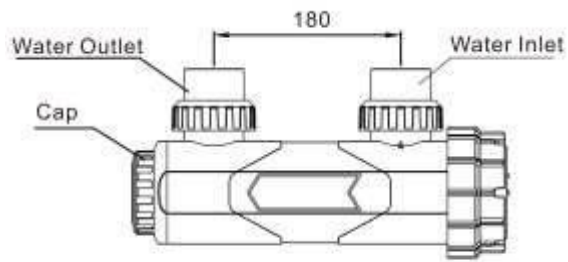

Figure1-2
- Two optional outlets make installation more convenient. (see figure 1-2, 1-3).